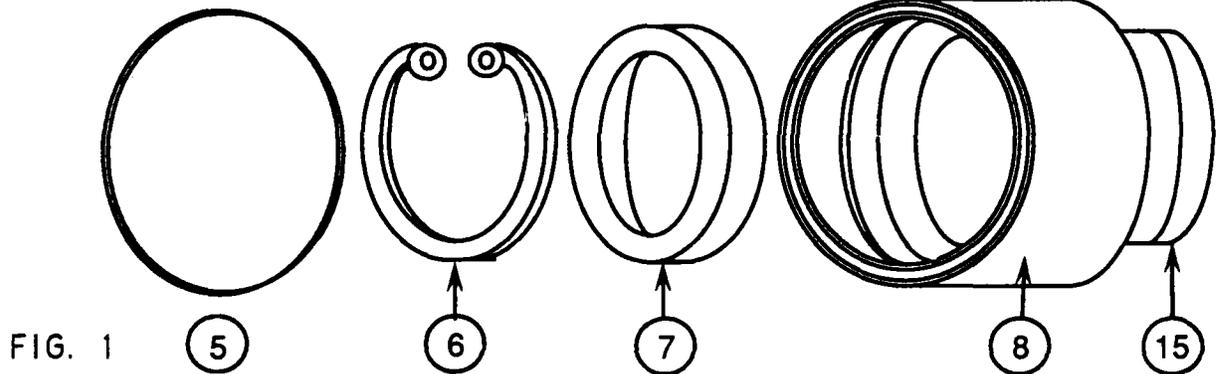

FIG. 1
1. Screw tail piece assembly fig.1 (items 5, 6, 7 and 8) into ballvalve (item 9).
2. Refer to Figure 1. Form the plate into a hoop. Insert the four 8-32 studs on one end of the plate into the slots on the other end. Loosely attach the holding strap to the four studs with the flat washer, Belleville washer and nut. Compress the hoop to its smallest diameter and tighten the nuts on the holding strap.